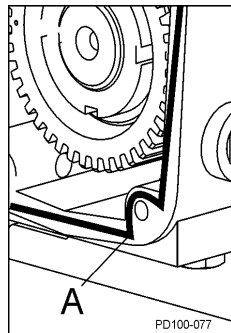

Figure 65 Sealant Placement
3. Apply silicone sealant to the back of the gear case. (Gore-Tex® sealing tape can be used on silicone-free models.) Place tape on the inside of the screw holes. (Figure 65, item A).